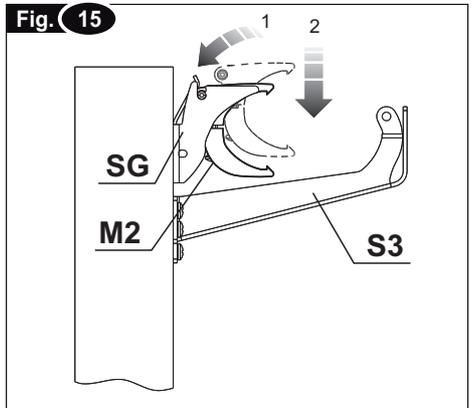

Fig. 16
8) Fig.16 - Fit the actuator into the clamps **M2** through the tracks on the actuator. Centre the chain-end on the bracket, then firmly close the clamps;